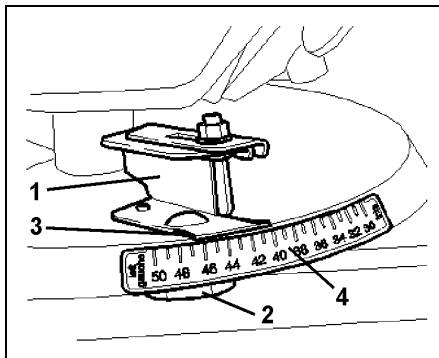

Fig. 46
- Fit the set border spreading vane (Fig. 46/1) with the thumb nut (Fig. 46/2) on the spreading disc.
- Set the read off edge (Fig. 46/3) on the scale (Fig. 46/4) to figure "47" (boundary spreading) or "50" (side spreading) (only valid for the indicated example) and retighten thumb nut (Fig. 46/2) firmly.